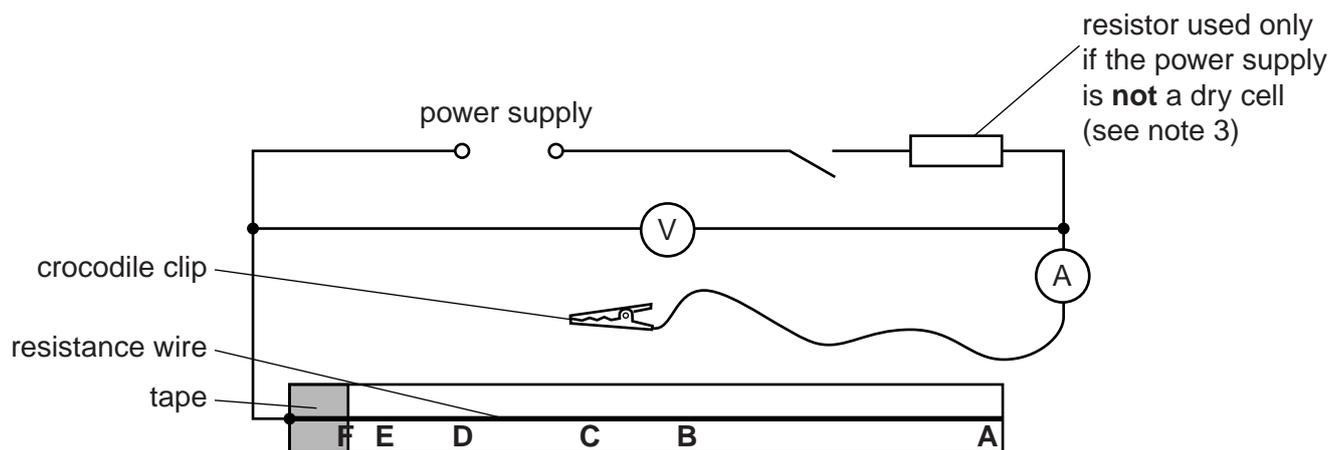

Fig. 3.1
- (vii) Sufficient leads to set up the circuit shown in Fig. 3.1.
1. The circuit is to be set up for candidates as shown in Fig. 3.1. The crocodile clip should **not** be connected to the resistance wire.
3. If the power supply is a power pack or lead acid cell, rather than a dry cell, a  $1\ \Omega$ , 3W resistor must be connected in series with the power supply, as shown in Fig. 3.1.